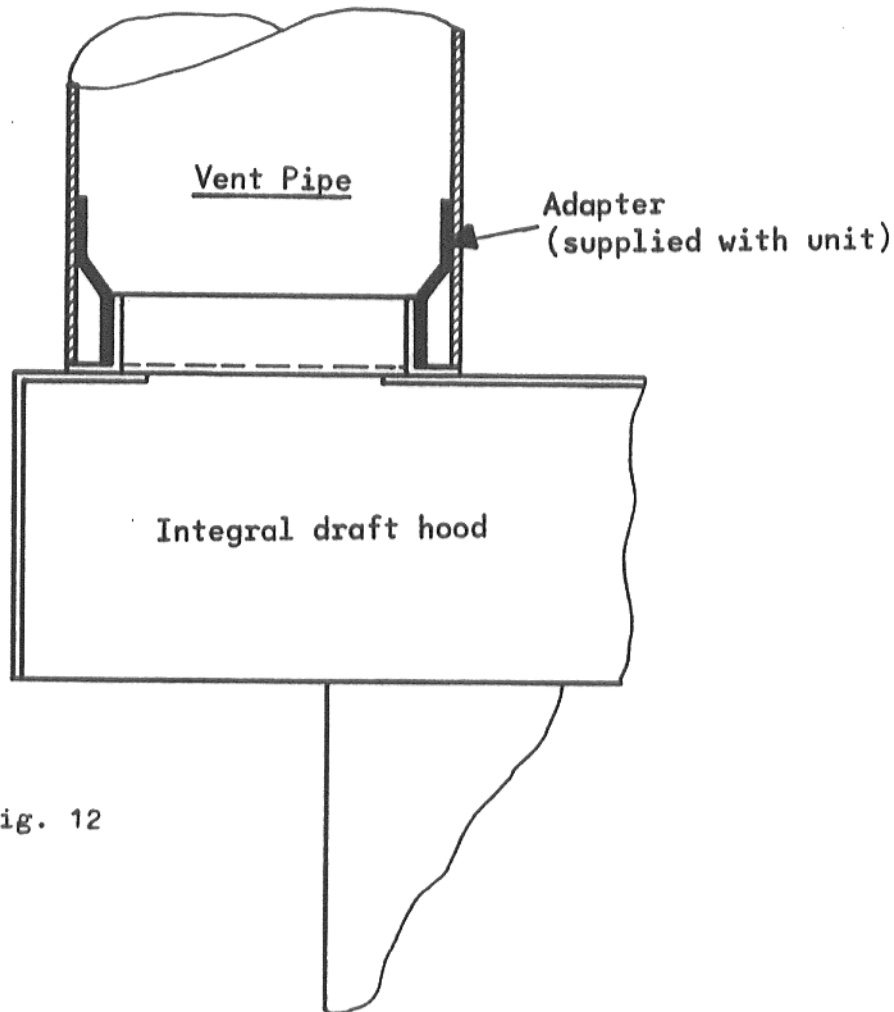

Fig. 12
The draft hood is incorporated at the rear of the boiler. A separate draft diverter is not required. All boilers shipped from the factory with the vent pipe adapter not installed. Follow the instructions outlined below, as well as figure 12. To install vent pipe, slip vent connector over the draft hood flue outlet and secure in place with (3) self tapping screws.